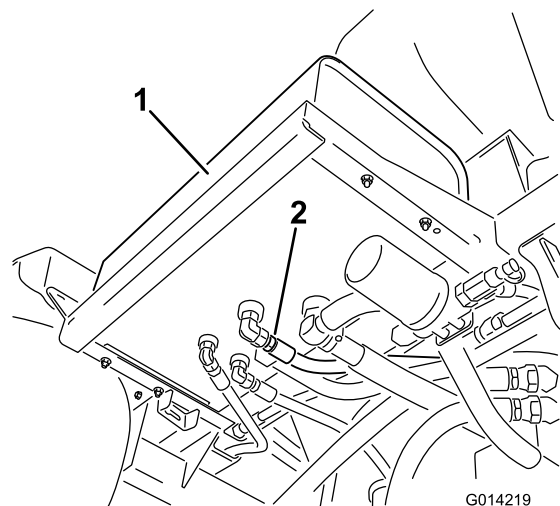

Figure 63
2. Clean the area around one hydraulic hose fitting on the bottom of the hydraulic oil tank (Figure 63).
4. Remove the hose fitting from the tank, allowing the oil to drain into the pan (Figure 63).